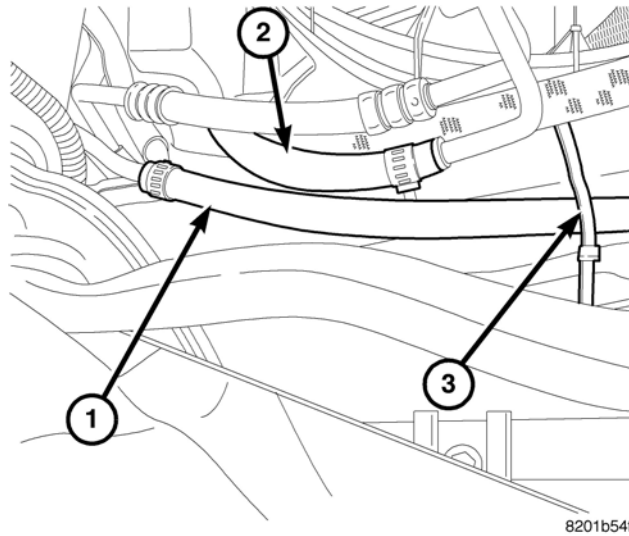

Fig. 17 NEW TRANSMISSION COOLER LINES INSTALLED
39. Secure the hose to the cross bar with the cable tie (p/n 04856503), (Fig. 17).